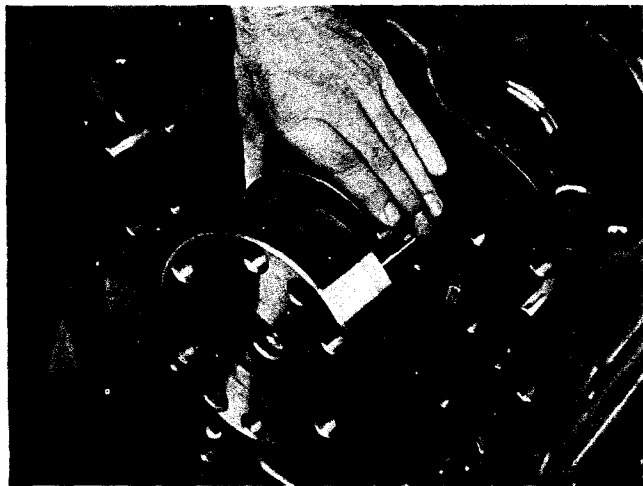

Fig. 14-7, (N114244). Installing lower main bearing shells
6. Coat lower main bearing shells and crankshaft surface with clean lubricating oil. Align bearing shell with ring dowel and snap in opposite side. Fig. 14-7.